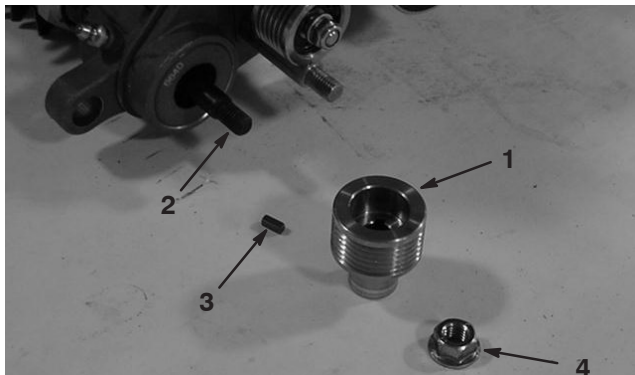

Figure 33
6. Remove the flange lock nut and square key securing the driven pulley to the end of the groomer shaft (Fig. 33). Remove the pulley.